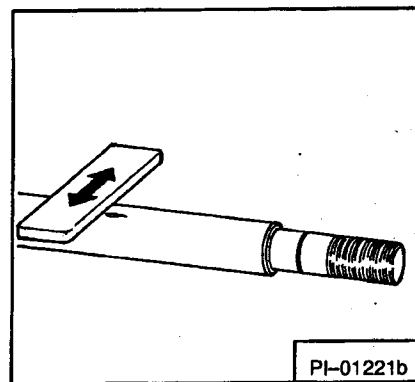

Fig. 4-46 Remove Marks on Shaft
2. Remove all rough areas off shaft (Fig. 4-46).